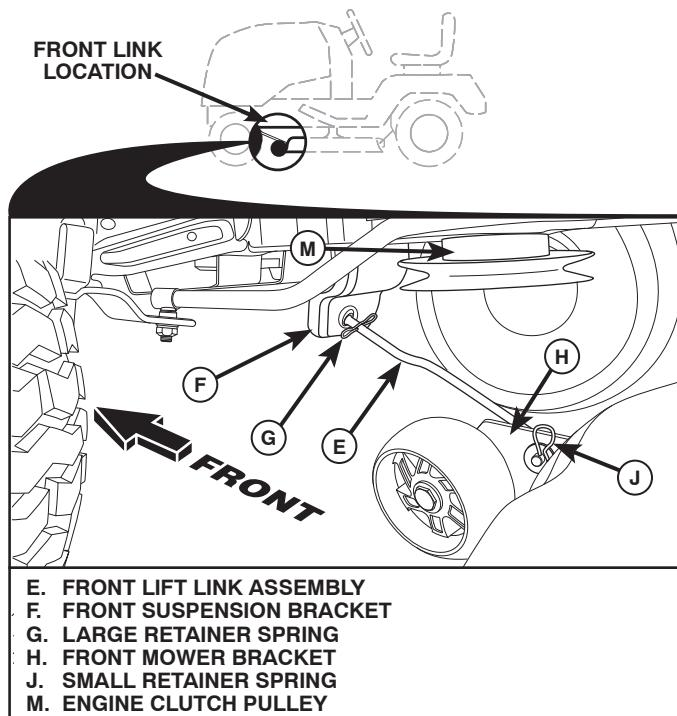

**Fig. 13**
## 7. ATTACH REAR LIFT LINKS (C) (See Fig. 13)
- Insert rod end of rear lift link (C) into hole (U) in tractor lift shaft suspension arm and pivot link down to mower.
- Lift rear corner of mower and position slot in link assembly over pin on rear mower bracket (D) and secure with large washer and large retainer spring.